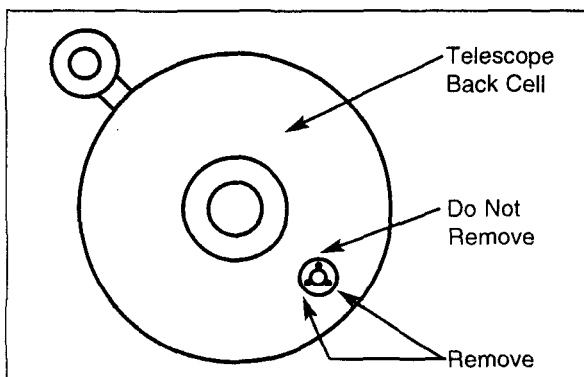

Fig. 1: Rear View of Telescope.
1. Remove and discard the two screws (shown in Fig. 1) from the telescope's focuser flange (8, Fig. 2) using the smallest supplied hex wrench.